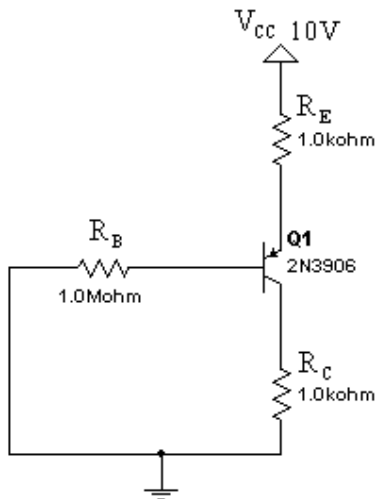

Fig.9: Biasing of PNP Transistor
6. Plot the DC load line using the calculated values of step (5) as end points of the DC load line. Locate the Q point based on the measured values of I_{CQ} and V_{CEQ} .
7. Connect the circuit as shown in Figure 9 using PNP transistor. Switch on the power supply.
8. Repeat the steps from (2) to (5) for Figure 9. Tabulate your records.